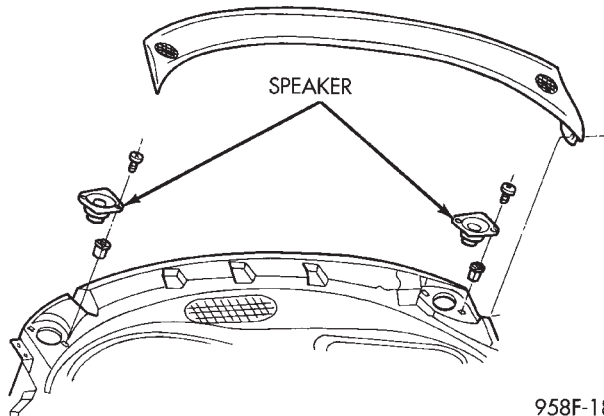

Fig. 12 Top Cover
- (1) Open glove box door.
- (2) Remove right end cap and remove screw at right end.
- (3) Remove left and right A-pillar moldings by disengaging the top christmas tree fasteners and then pulling the moldings out vertically.
(4) Lift the right rear edge of top cover to disengage the clips along the rear edge. Proceeding from right to the left side. Do not use a nylon trim stick, to avoid potential damage (Fig. 12).
(5) Lift rear edge and slide top cover rearward disengaging angular clips and remove cover.